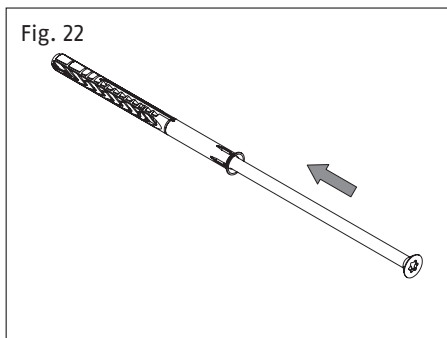

Fig. 22
2. For further reinforcement, fit wooden screws with  $\varnothing 7 \times 60$  mm or dowels with  $\varnothing 10 \times 120$  mm: For this purpose: bore two bevelled holes with  $\varnothing 5$  mm and a depth of at least 60 mm for the wooden screws or with  $\varnothing 10$  mm and a depth of at least 140 mm through the screw-on plate. Screw in the wooden screw or insert screw into the dowel (fig. 22), push both into the dowel hole up to the dowel collar and tighten the screw firmly.